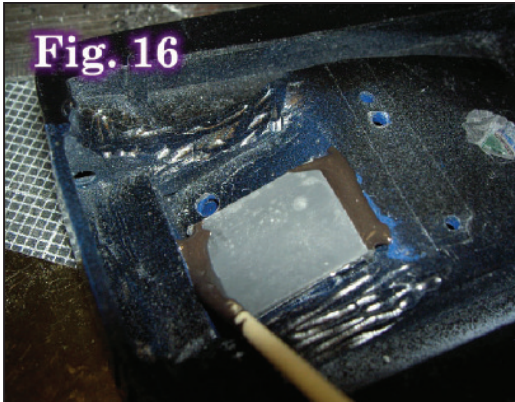
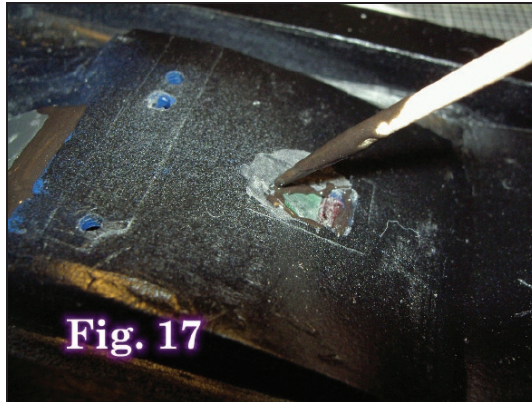

Fig. 16
Fig. 17
Step 8: Using epoxy or JB Weld (recommended--it's available in slow or fast set), glue the speaker grill in place; it will fit on only one way to look right (Fig. 16). Glue the green and red LED parts in place (Fig. 17); these should stick out of the surface approximately .050 (or 1/16" max). If you're planning on putting lights in here, make sure the glue doesn't cover the bottom of the LED parts. (Optional: apply a little Bare-Metal foil to the bottom of the LEDs).